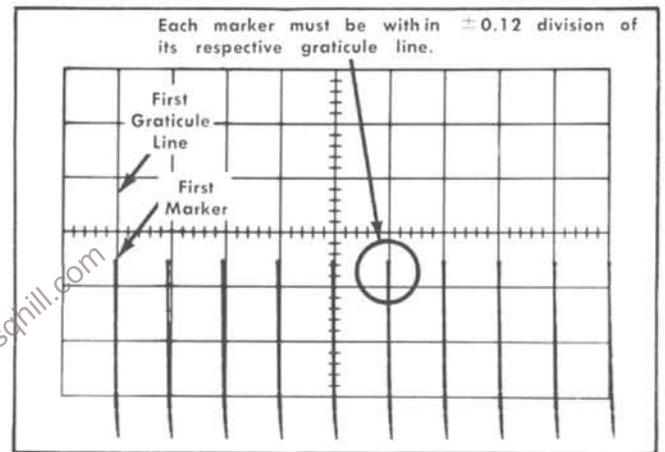

Fig. 6-47. Typical crt display when checking magnified linearity.
- c. Check—Linearity of crt display between the first and ninth graticule lines is within tolerance of $\pm 1.5\%$ (± 0.12 division); see Fig. 6-47.
42. Adjust Magnifier Register ❶